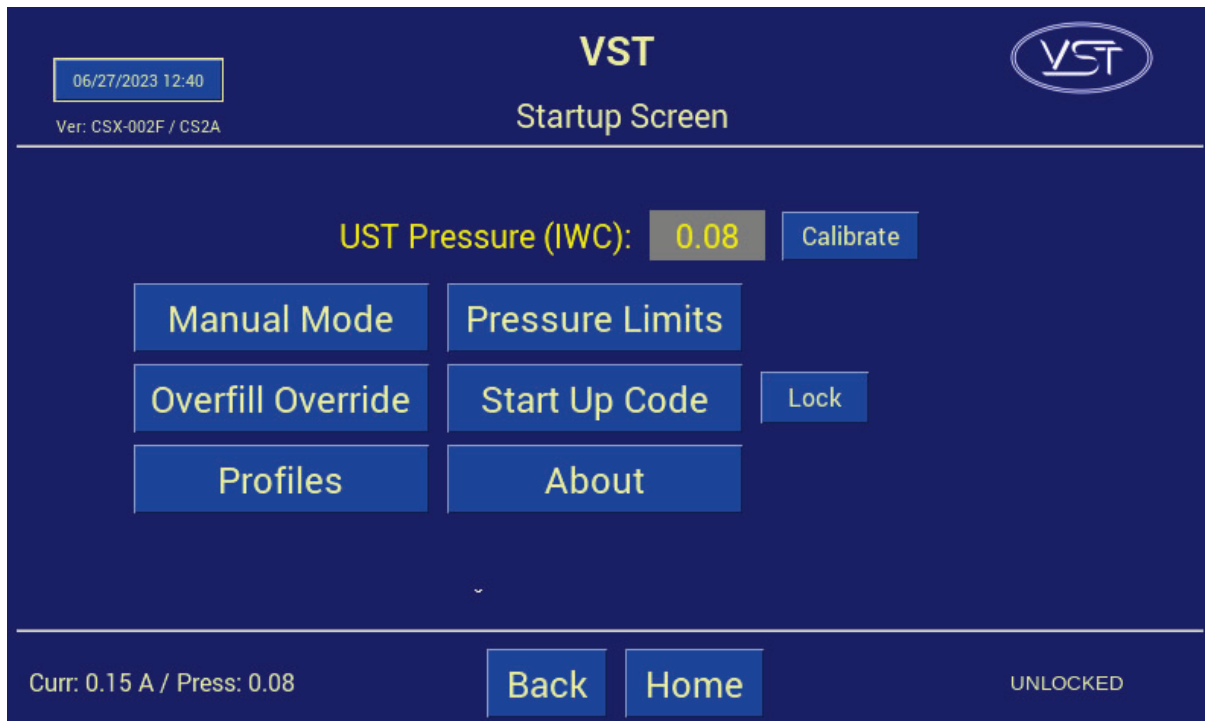

Figure 6-9: Startup Screen
- To manually override the Overfill Alarm once the test is complete, navigate to the Startup Screen. **See Figure 6-9.**
7. Push the “Startup Code” button. See **Figure 6-9**.